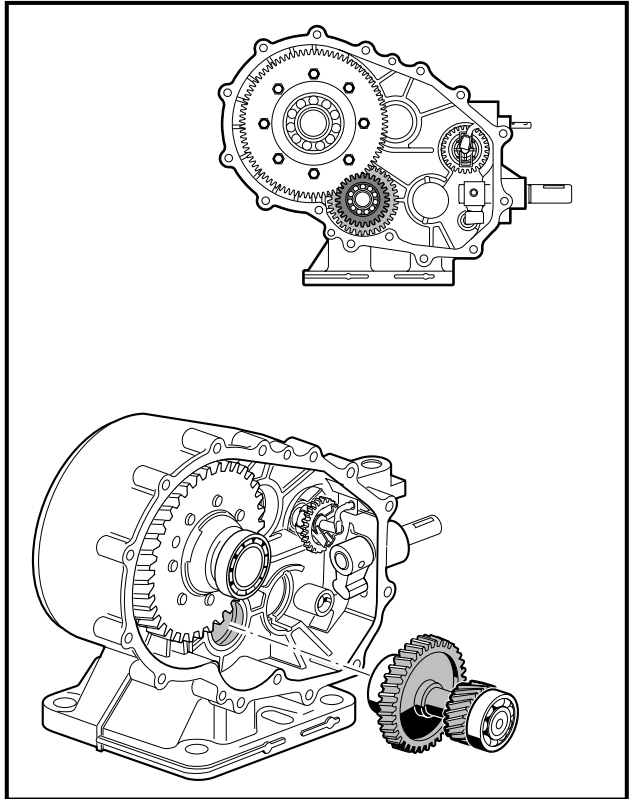

Figure 16-82 Idler Gear Assembly
- 7.2. Install the idler gear assembly into case as shown. Do not seat the assembly in the bore, but insert far enough that it will not fall out. No gears mesh at this time (**Figure 16-82, Page 16-34**).